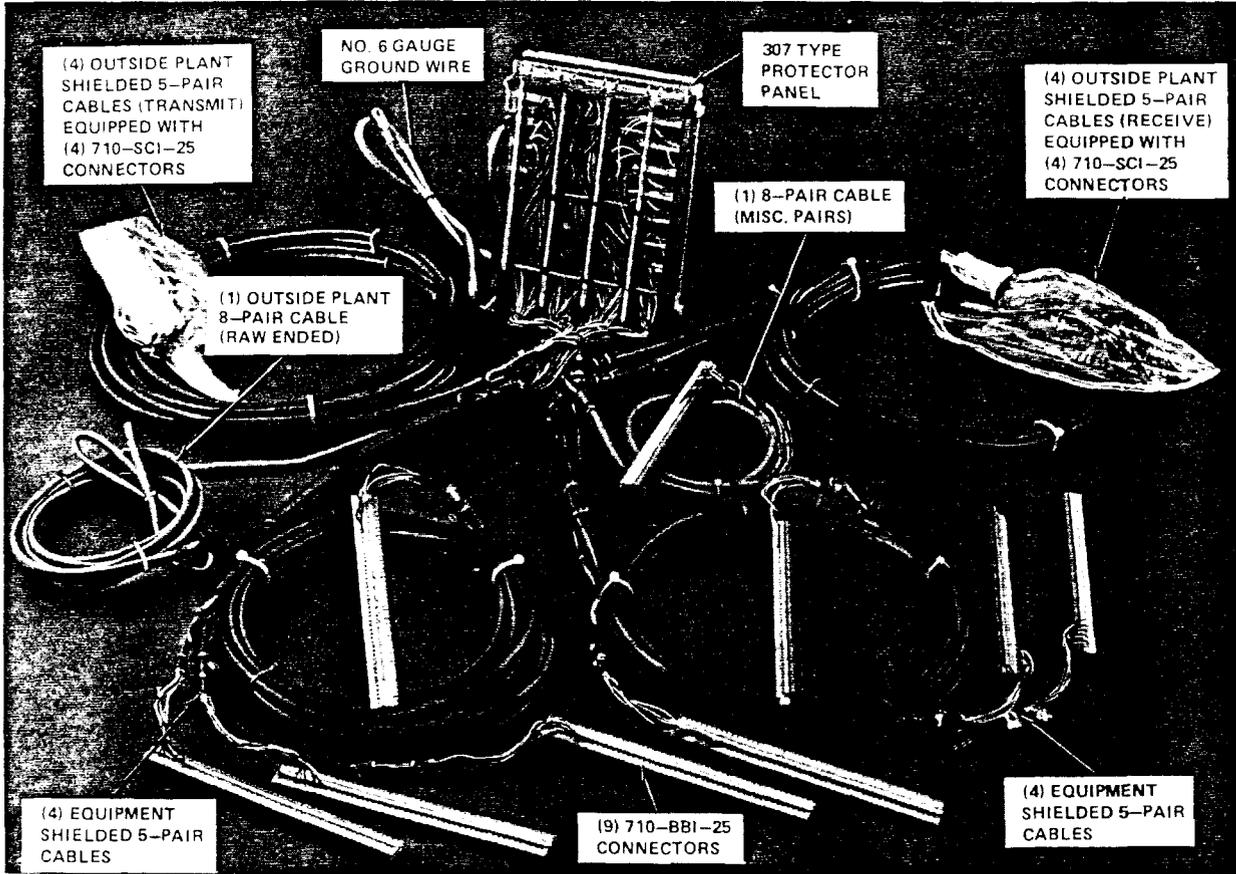

Figure 7. 307C3-100 Connector
2.06 The 307C3-100 connector (Figure 7) has a protector panel with connectorized harnesses to be used in 80-type cabinets for the T1 transmit and receive pairs, and the miscellaneous pairs for the **SLC** Series 5 Carrier System remote terminal. Pairs 1 through 20 are for the transmit pairs, pairs 51 through 58 are for the miscellaneous pairs, and pairs 81 through 100 are for the receive pairs. Shielded 5-pair cable is used for pairs 1 through 20 and pairs 81 through 100, and 8-pair cable is used for pairs 51 through 58. Each of the 5-pair cables in the harness for the equipment side is connectorized into individual 710-BB1-25 connectors, as is the 8-pair cable. On the outside plant side of the harness, two 5-pair cables are connectorized onto each 710-SC1-25 connector, such that pairs 1 through 10, pairs 11 through 20, pairs 81 through 90, and pairs 91 through 100 are on separate connectors. Pairs 51 through 58 of the outside plant side of the harness are left raw ended. The lengths of the cables making up the harness are such that the cables can be routed through the cabinet to the appropriate position.